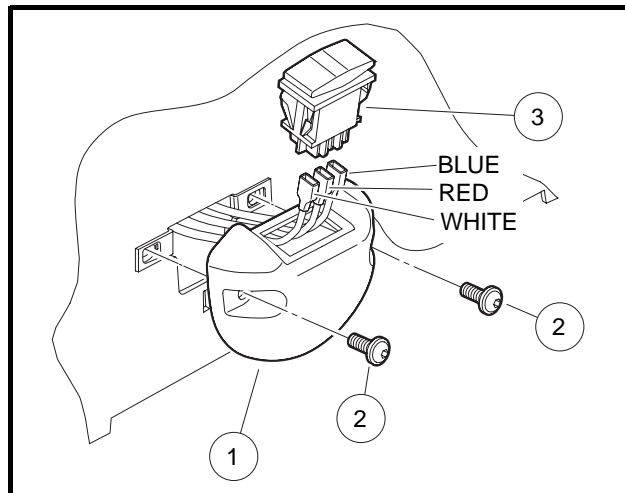

Figure 12-4 Forward/Reverse Rocker Switch
2. Remove two screws (2) that hold Forward/Reverse rocker switch housing (1) to the vehicle (**Figure 12-4, Page 12-4**).
4. Press in on the locking tabs on each side of switch (3), and push switch out of housing.
1. Route the three wires through bezel. Connect the three wires to the rocker switch (3), exactly as shown in (**Figure 12-4, Page 12-4**).
2. Orient the rocker switch (3) so the terminals are towards the front of the housing (1). Push rocker switch (3) into housing (1) (**Figure 12-4, Page 12-4**).
3. Place the housing in position on the body and install the two screws (2). Tighten to 20 in-lb (2.3 N·m).